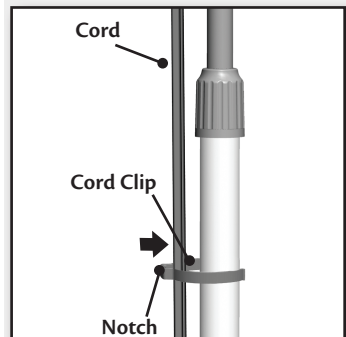

Figure 19
- Straighten the cord from the motor housing along the telescoping pole and snap the cord clip over the cord onto the pole so that the cord rests in the notch on the clip. Figure 19.